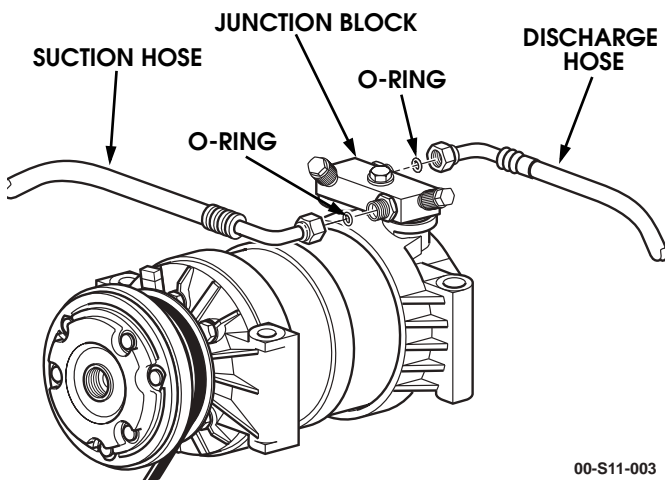

Figure 11-10: Suction/Discharge Hose Mounting
5. Disconnect the suction hose at the compressor junction block, discard the O-ring (Figure 11-10).
4. Remove discharge hose from compressor block and discard O-ring (Figure 11-10).
1. Position O-ring on discharge hose (Figure 11-10).